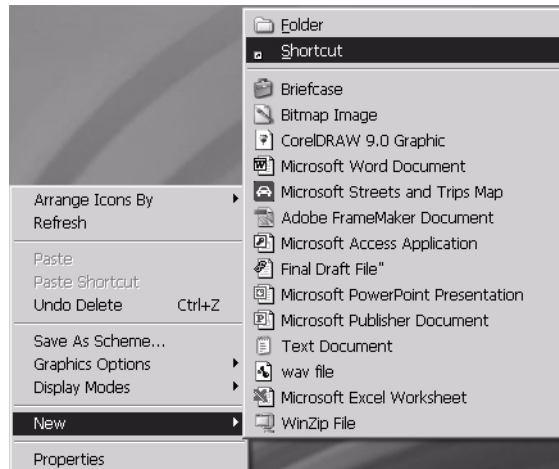

Figure 39: Creating a shortcut to the System Control Center
1. Right-click anywhere on the computer desktop and select **New—Shortcut** from the popup menu as shown in Figure 39.